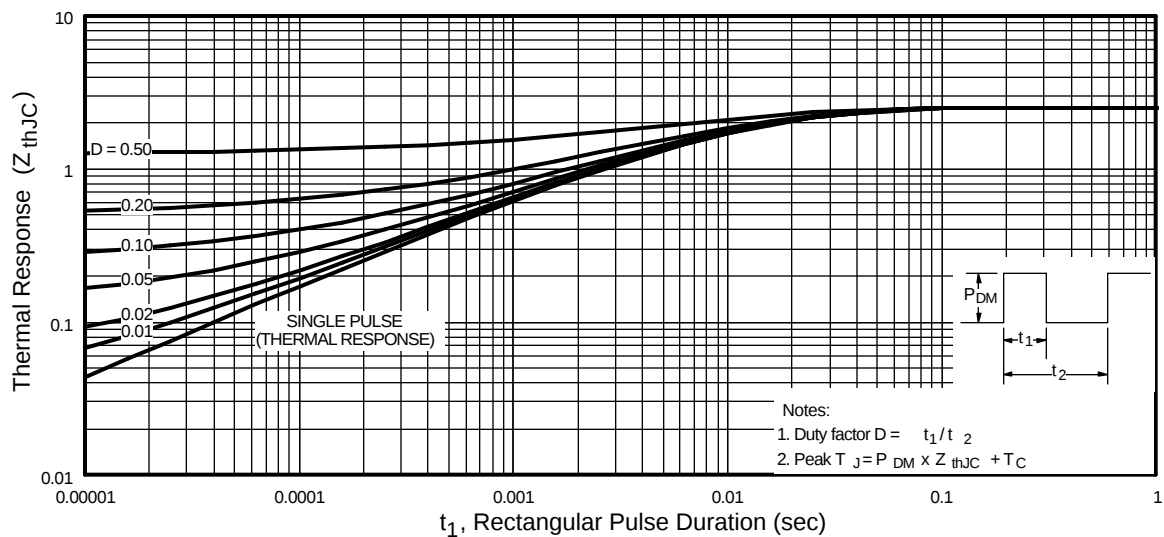

Fig 11. Maximum Effective Transient Thermal Impedance, Junction-to-Case
① Repetitive rating; pulse width limited by max. junction temperature. (See fig. 11)
② Starting $T_J = 25^\circ\text{C}$, $L = 57mH$